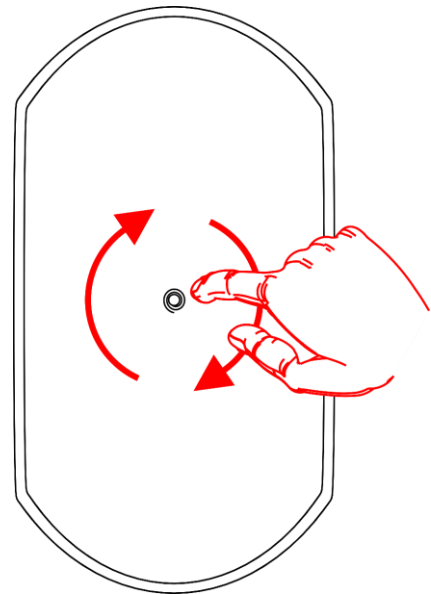

Fig. 24
- 02) On the inside of the **speaker grill (01)**, press on the spring-loaded pin and move the **rotatable logo (02)** to the correct orientation (Fig. 24).
- 04) Install the **speaker grill (01)** on the device.